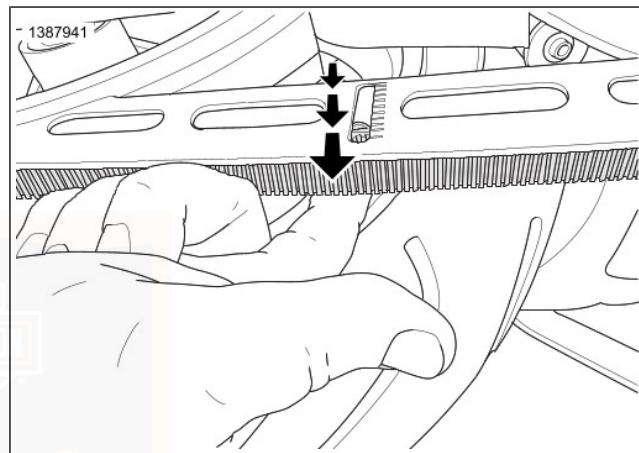

Figure 55. Belt Pluck
- d. See Figure 55. Use finger or thumb to pluck back side of lower belt at belt deflection window.